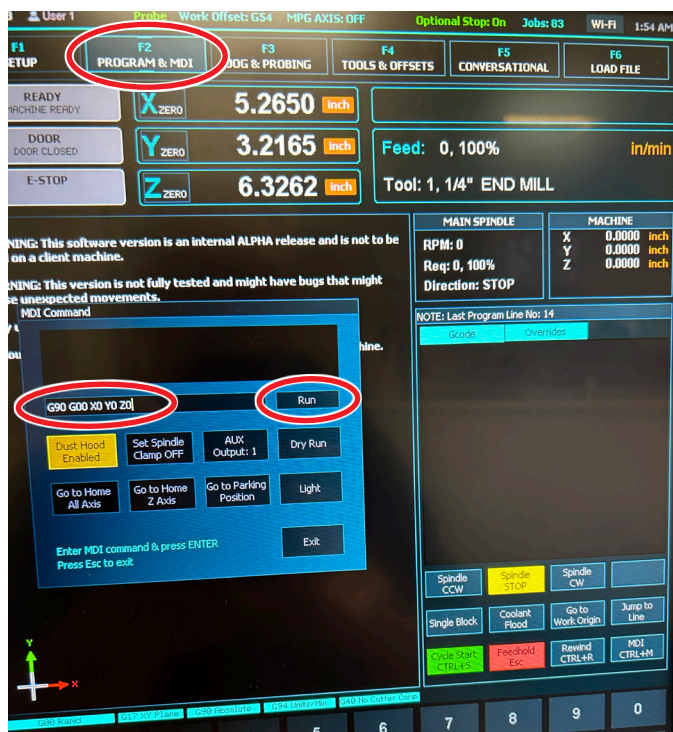

FIGURE 1—The red ovals indicate the touch-screen input areas.
1. To move your tool to the “Program Zero Position,” go to the F2 screen. Touch MDI (Manual data input). Then type in “G90 G00 X0 Y0 Z0,” then touch “Run.” This will move the current tool to the part “Zero” position in each axis, or any individual axis that you type in. (see Figure 1).